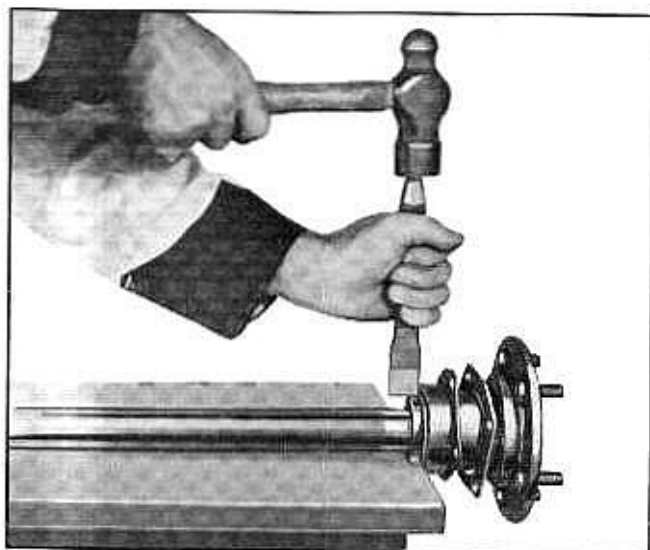

Fig. 4-9 Splitting Bearing Retainer Ring
2. Remove bearing retainer ring by carefully cutting it with a cold chisel as shown in Fig. 4-9. Do not cut into shaft with chisel. It is not necessary to cut entirely through retainer. If a new bearing is to be installed, unserviceable bearing and retainer may be pressed off shaft together. This must not be done if bearing is to be used again because of danger of brinelling bearing.